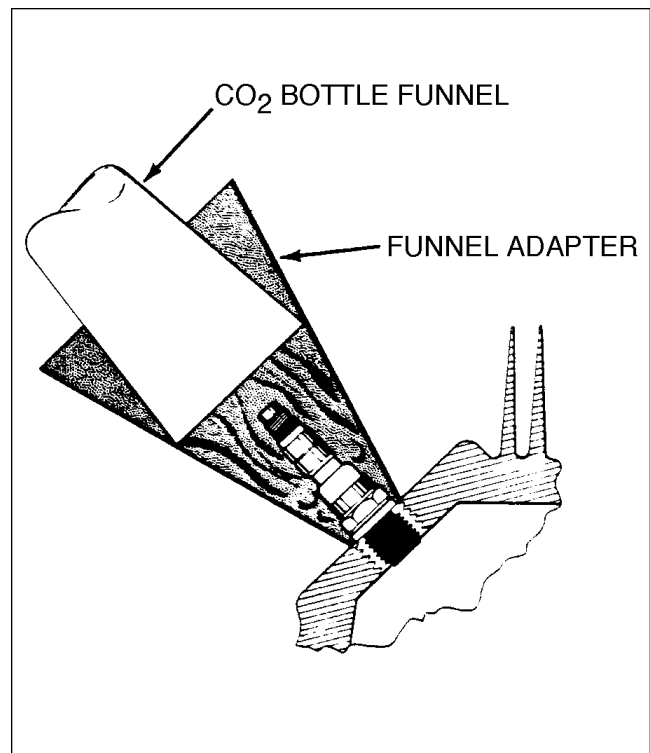

Figure 8-34. Removing Spark Plug Frozen to Bushing
1. Apply liquid carbon dioxide by using a conical metal funnel adapter, with a hole at the apex precisely large enough to accommodate the funnel of a CO₂ bottle. (Refer to Figure 8-34.)